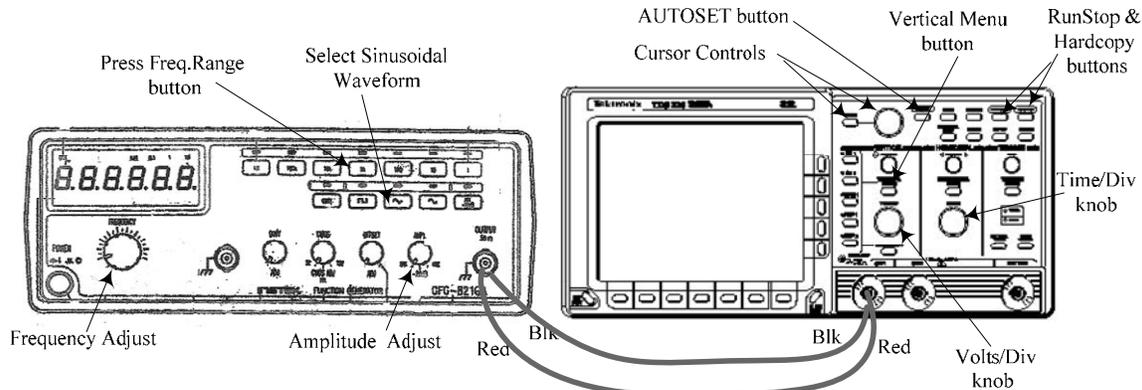
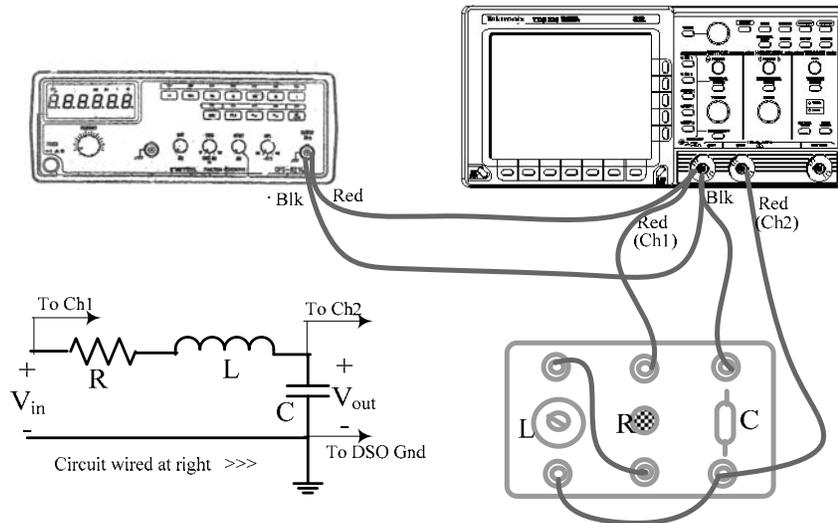

Figure 1.9: Main FG & DSO controls identification & basic interconnection
Figure 1.13
The student should first make the direct connection shown in Figure 1.9 between the FG and DSO (using banana-plug patch cords available in the lab), switch both instruments on, and obtain a waveform display on the DSO: Pressing CH1 or CH2 on the DSO (on the group of buttons to the left of the VERTICAL MENU button) will cause the corresponding trace to appear. Then pressing the AUTOSET button will produce a display which is ‘optimally sized’ for the applied signal level. Any given trace may be removed by selecting it and then pressing the ‘WAVEFORM OFF’ button. The DC zero level of each trace is indicated by the small arrowhead along the left edge of the graticule. The student should investigate the effects of manipulating the main FG controls identified in Figure 1.9, on the waveform observed on the DSO. The student should also ‘experiment’ with the DSO controls: When the VERTICAL MENU button on the DSO is pressed, various options such as AC/DC input coupling, channel inversion, full or 20 MHz bandwidth, Finescale, DC offset become available for the selected trace. These options are selected using the horizontal and vertical rows of buttons that border the screen, as well as the GP knob. The DSO also provides two reference channels (to store waveforms for comparison purposes) and a ‘MATH’ channel which displays the result of an arithmetical operation performed on the two active channel signals, such as $M = \text{Ch1} - \text{Ch2}$.
- Make the banana-plug patchcord connections shown in Figure 1.13 between the FG, the DSO and the RLC-Chassis using appropriate lengths and colours. The circuit obtained is a **series-RLC** circuit excited by a voltage source, with the voltage across C being the output voltage V_{out} . [Note that after connecting the FG to the DSO, as in Figure 1.9, all the other connections are made at the DSO terminals alone, since this results in minimum wiring clutter].